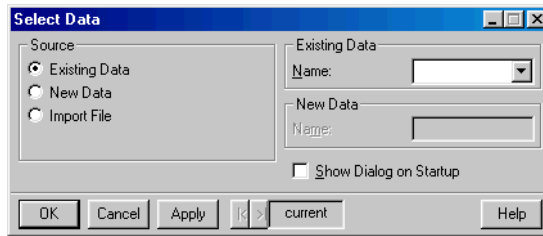

Figure 2.10: The **Select Data** dialog.
1. From the main menu, choose **Data ► Select Data**. The **Select Data** dialog opens, as shown in Figure 2.10.